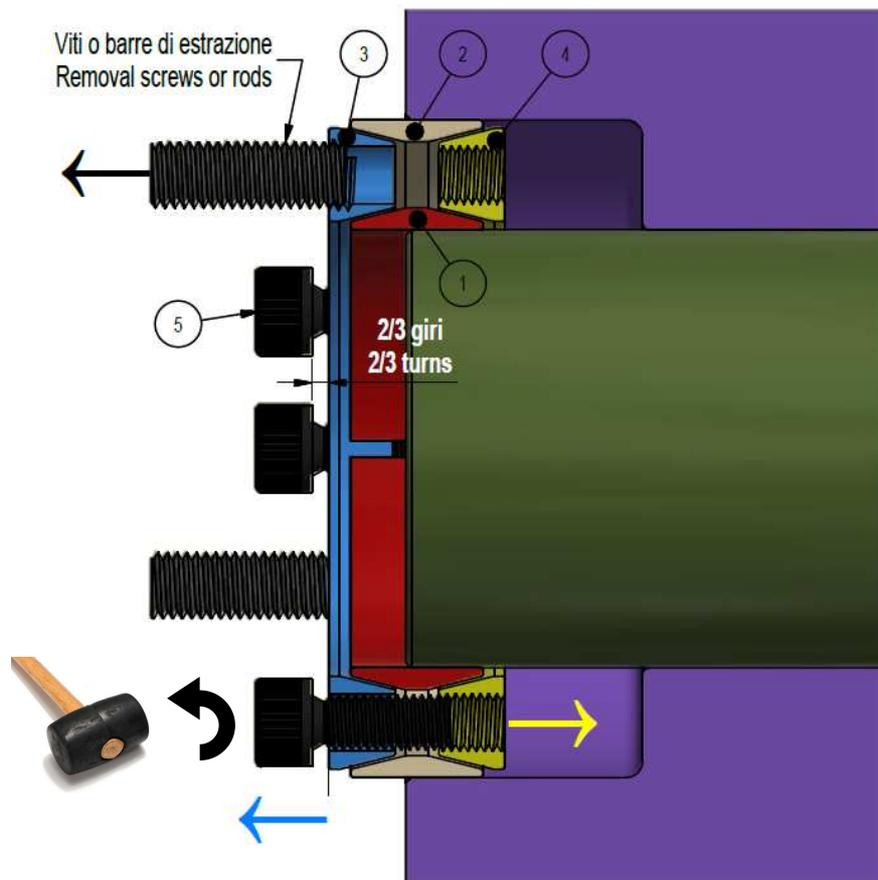

Fig. 4. Release of thrust rings and removal of Locking Assembly.
2. **Progressively loosen all screws in several passes** until the thrust rings have released (self-releasing tapers). Should the thrust rings jam, light hammering on the head of three equally spaced, pre-loosened screws may be necessary to release the thrust rings (fig. 4).
3. Hub and Locking Assembly are normally removed together. Removal of Locking Assembly from deep counterbores is accomplished using two or three removal screws or threaded rods (supplied by others) turned into the pull-out threaded holes located in the front thrust ring under the zinc plated screws (fig. 4). The pull-out holes are NOT to be used for high pulling forces. The diameter of pull-out threaded holes is larger than the diameter of locking screws (see table below).